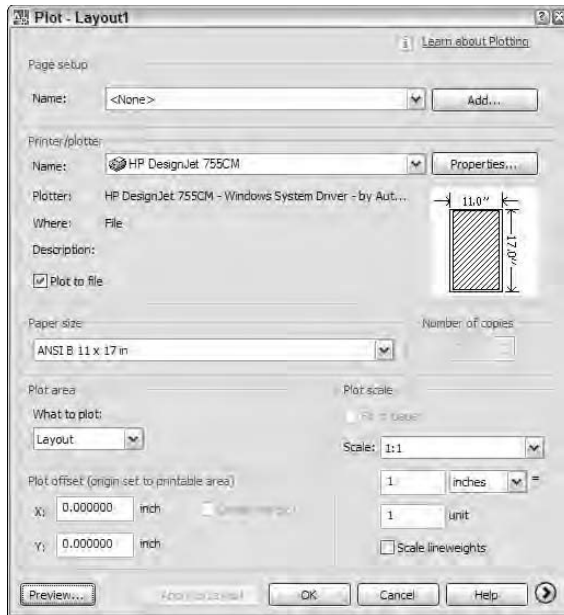

Figure 13-6:
- 4. In the What to Plot drop-down list, choose Layout, as shown in Figure 13-6.**
- 6. In the Plot Scale area, select 1:1 from the Scale drop-down list, as shown in Figure 13-6.**
One of the big advantages of layouts is that you don't need to know anything about drawing scale in order to plot the drawing — hence the name *paper space*. Figure 13-6 shows the proper settings for plotting a layout.